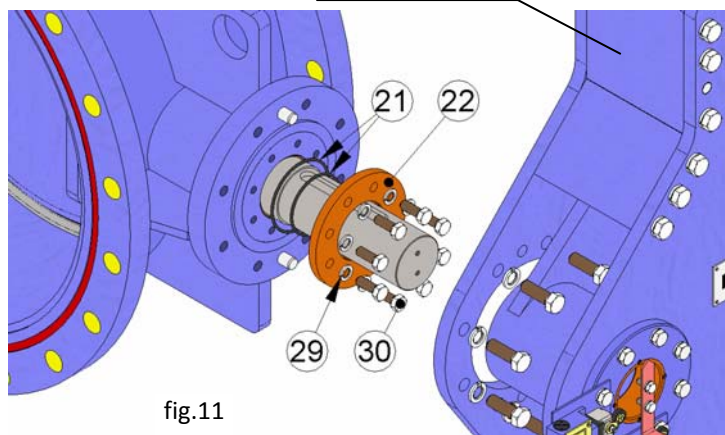

fig.11
**Note:** The numbers in brackets refer to the image in figure 11.